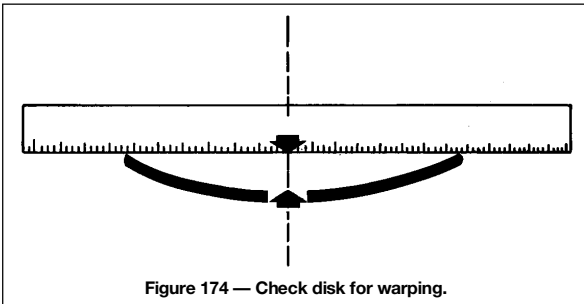

Figure 174 — Check disk for warping.
- Check that flanges are the correct size and not warped or sprung (Figure 174).